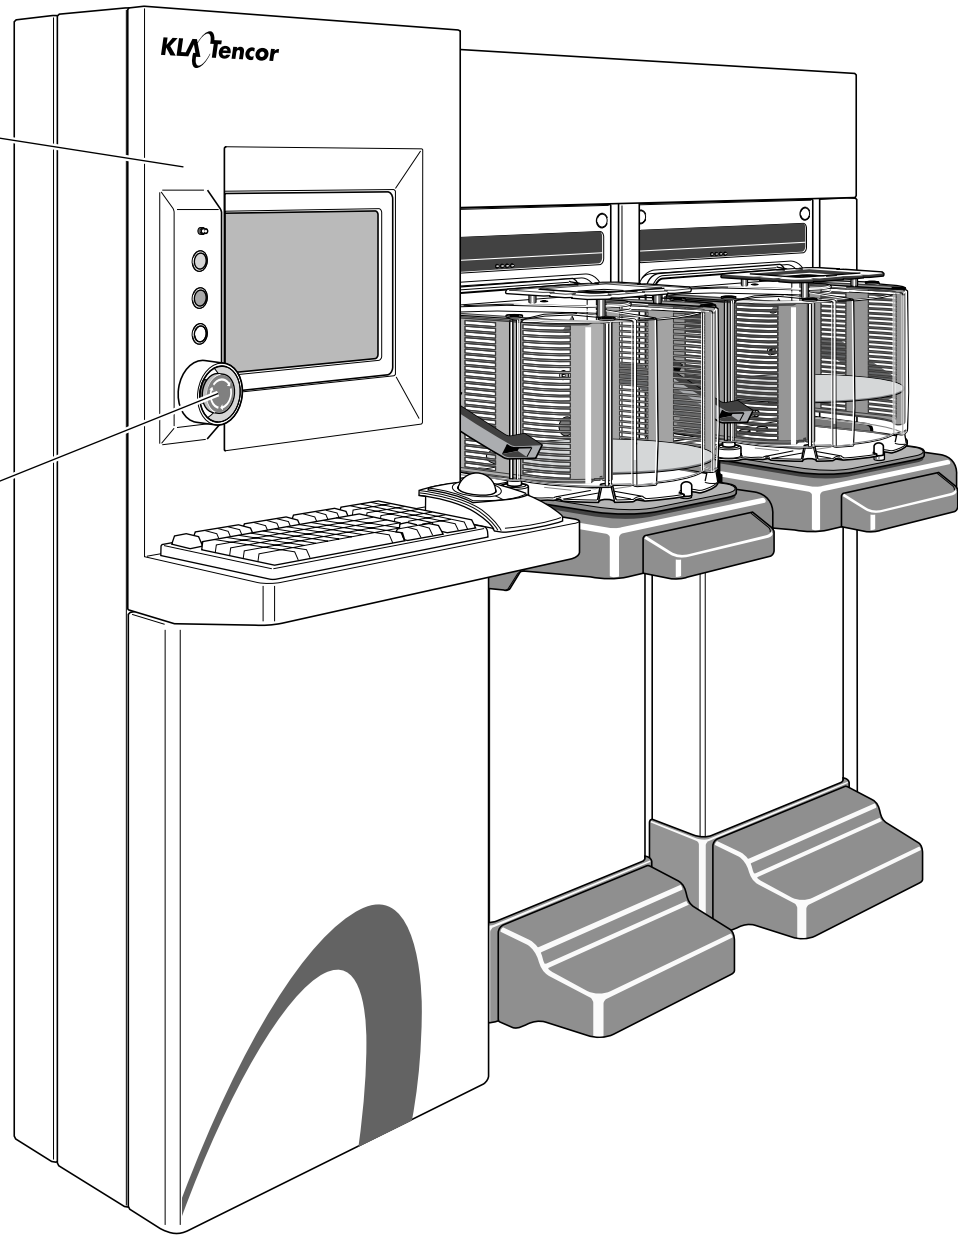

Figure 1-4: Remote User Interface Panel, 300-mm Quantox System
- If the remote user interface option is installed, another EMO resides on the remote user interface panel (Figure 1-4).